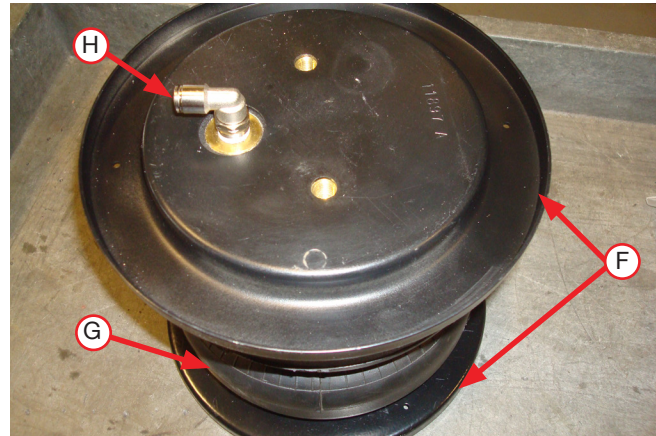

Fig. 5
1. Place the roll plates (F) on the air springs (G). Install the 90-degree swivel elbow fittings (H) onto the air springs (Fig. 5). Tighten the air fittings finger-tight plus 1 1/2 turns.